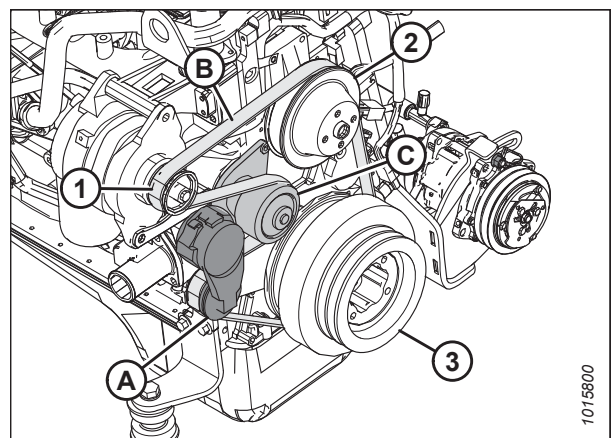

Figure 5.194: Engine Belt
5. Insert the drive end of a 1/2 in. drive ratchet wrench into belt tensioner (A).
6. Rotate tensioner counterclockwise until fan belt (B) can be slipped off pulley (C). Release the tensioner and remove the wrench.
7. Remove the belt in order 1, 2, 3, as shown in Figure 5.194, page 475.
8. Insert the drive end of a 1/2 in. drive ratchet wrench into belt tensioner (A).
9. Rotate the tensioner counterclockwise until belt (B) can be slipped onto pulley (C). Release the tensioner and remove the wrench.